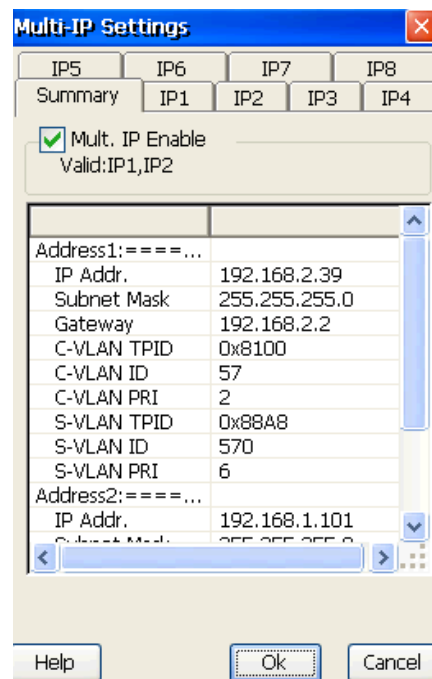
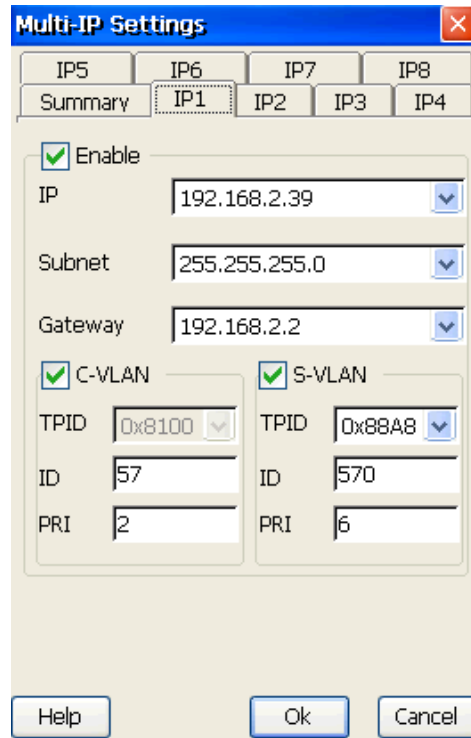

Figure 5.2.4 Port Setting-Multi-IP Settings summary
Figure 5.2.5 Port Setting-Multi-IP Settings IP1
7. **[...]**: To set multiple simulated IP addresses, 8 at most. As shown as figure 5.2.4 and figure 5.2.5.